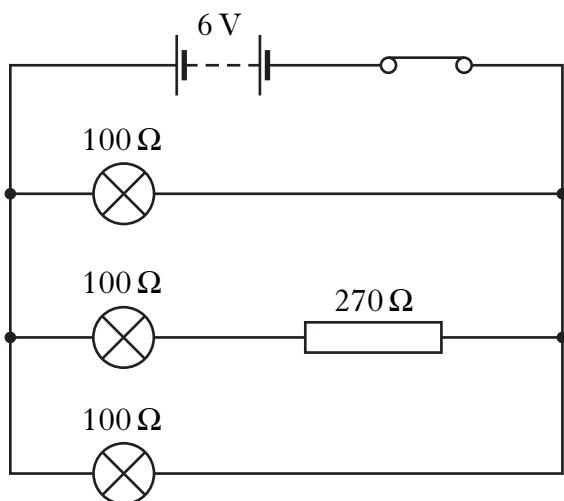

Figure Q6
6. An electrical circuit used to operate three lamps in a child's night light is shown in Figure Q6.
(b) Indicate, with a cross (**X**) on Figure Q6, where an ammeter should be connected to measure the **total** current in the circuit.